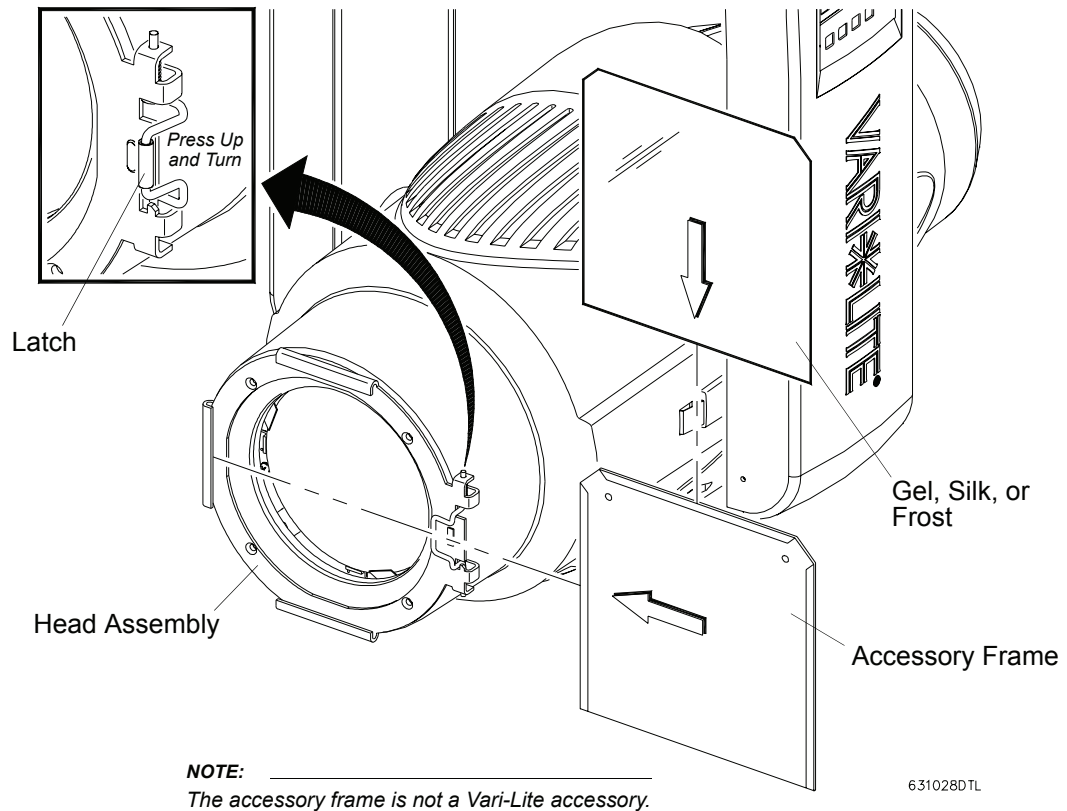

Figure 2-8: Installing a Frame or Top Hat
- Step 3. Remove frame/top hat, if any (Figure 2-8).